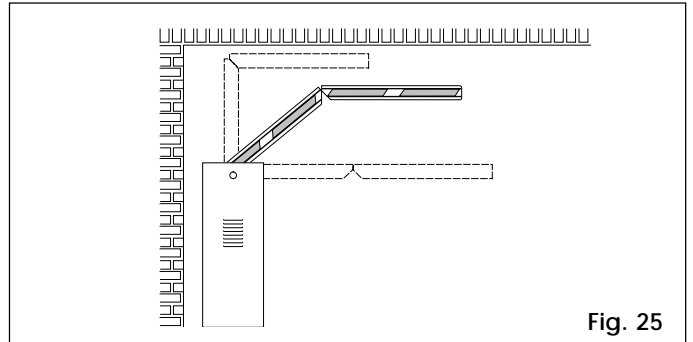

Fig. 25
**ARTICULATION KIT (Fig. 25, mod. 620 only)**